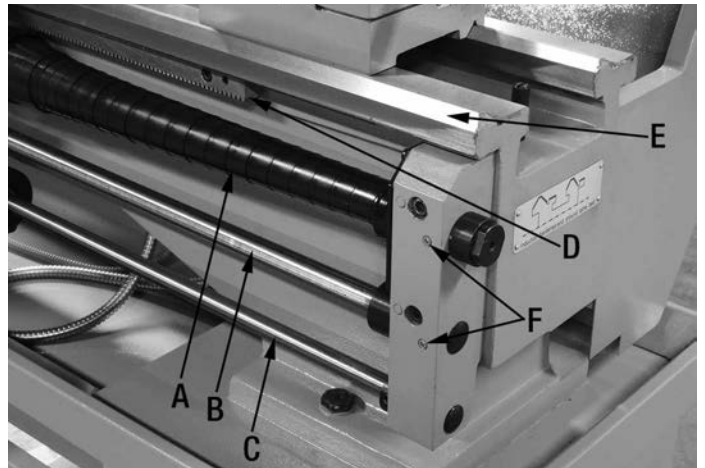

FIGURE 23
Make sure to lubricate the leadscrew (A) Fig.23, feed rod (B) and switch control rod (C) with machine oil. Apply machine oil to the racks (D) and guide ways (E). Make sure they are clean before lubricating. Lubricate the ball oilers (F) with regular machine oil.